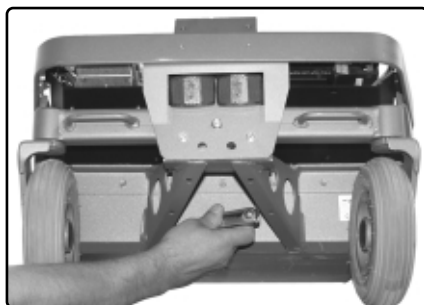

Fig. 3. The electronics are fitted with two screws underneath
3. Disassemble the electronics that are fitted with two screws at the back of the underside of the chassis, see Fig. 3.
- 6. Refit the electronics and fasten with the two screws underneath, see Fig. 3, previous page.